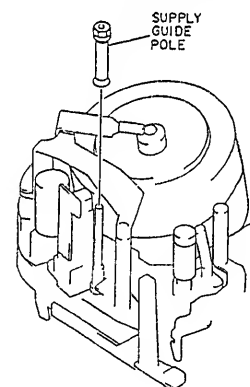

Fig. 2-73
1. Turn the upper section of the supply guide pole using the hexagonal box wrench (5.0mm) to remove the supply guide pole. (See Fig. 2-73)